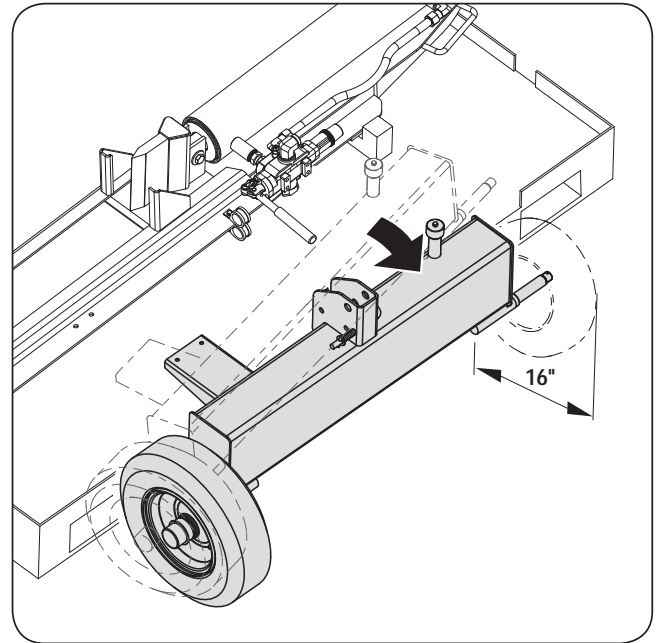

Figure 3e
- Move the reservoir and let the other side wheel axle outside of the pallet. (See **Figure 3e**)